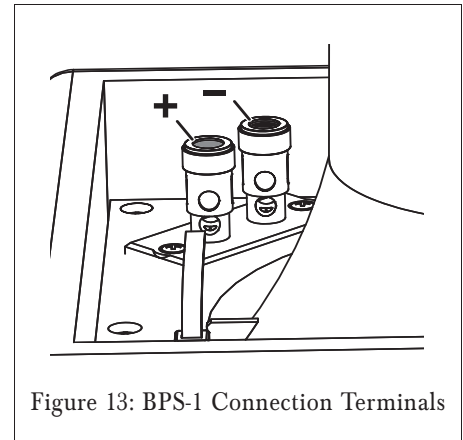

Figure 13: BPS-1 Connection Terminals
4. The speaker's positive connector post is labeled with a red dot; the negative post is labeled with a black dot (see Figure 13). Push the top of each connector post down to open the connector and insert the exposed wires into the holes in the posts. Double-check that you connected amplifier "+" to speaker "+" and amplifier "-" to speaker "-".